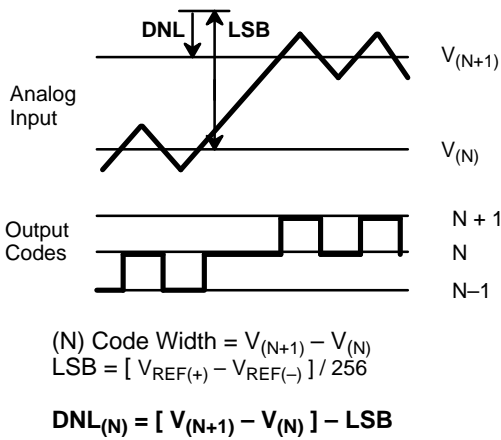

Figure 3. DNL Measurement
- Tester measures code transitions by dithering the voltage of the analog input (V_{IN}). The difference between the measured and the ideal code width (V_{REF}/256) is the DNL error (Figure 3). The INL error is the maximum distance (in LSBs) from the best fit line to any transition voltage (Figure 4). Accuracy is a function of the sampling rate (F_S).